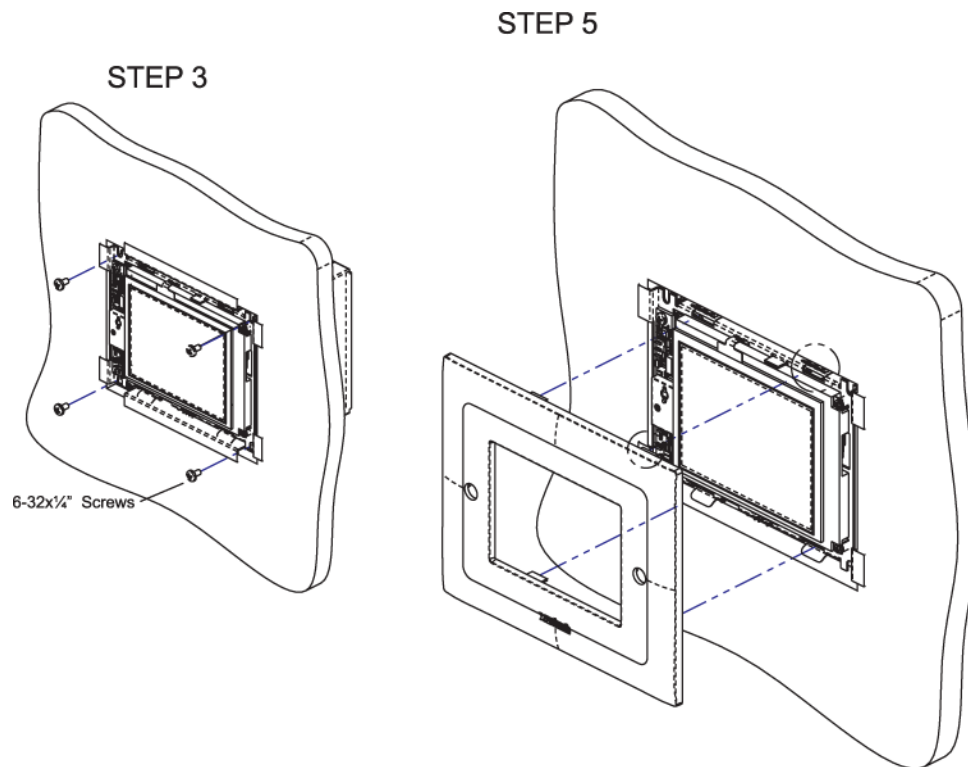

Figure 12 – Installing SPLCD into Back Box
5. Install front **Bezel** making sure the two **alignment tabs** are properly aligned and the **Bezel Magnets** 'attach' to the SPLCD and are holding the **Bezel** in place. (**Figure 12**)